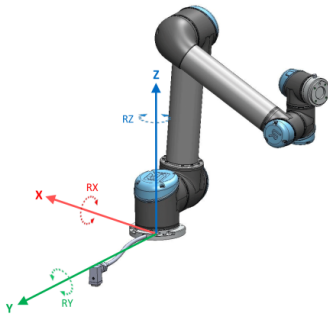

Figure 13.1: Base feature
- The Base feature is located with origin in the centre of the robot base (see figure 13.1)